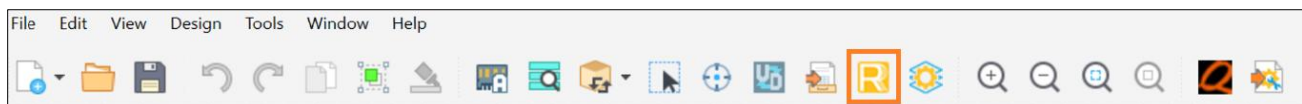

Figure 5.18. Lattice Radiant Icon in Lattice Propel Builder
8. To synthesize the RTL files and generate the bitstream, click the Lattice Radiant icon in Lattice Propel Builder, as shown in Figure 5.18.